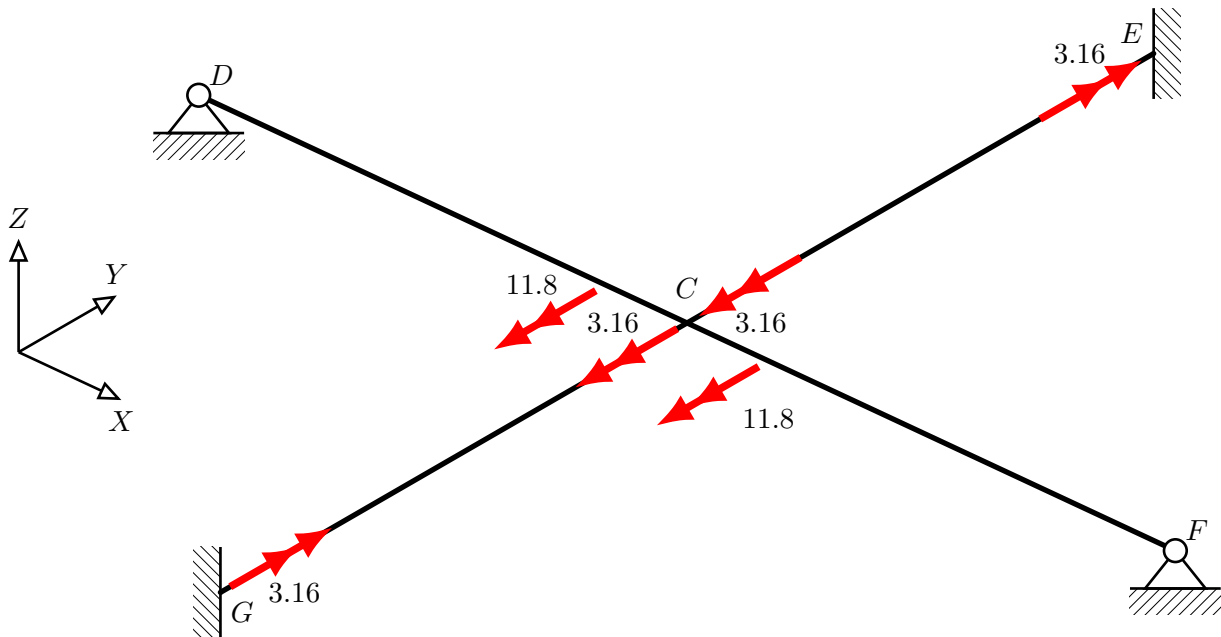
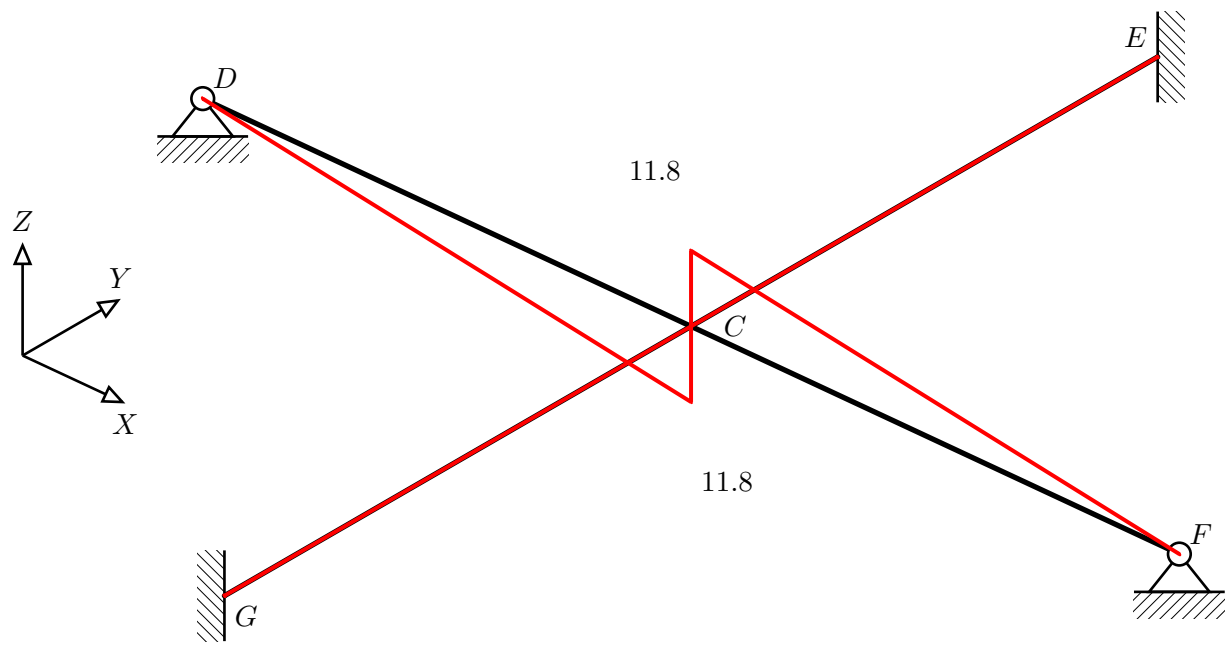

Figure 1: Free body diagram.
Figure 2: Bending Moment Diagram.
**Step 10** is to draw the internal actions diagrams. To do this, the results of the member actions which were derived in the local member coordinate system must now be considered now in the global coordinate system. The easiest way to do this is to draw the directions by carefully interpreting the member force signs against the global axis system. The resulting FBD is shown in Figure 1.
Considering the BMD, for each member, to identify the side in tension it can help to visualise the deformation resulting from the forces acting on it indicated in the free body diagram, Figure 1. Since there are no loads acting between the nodes, the BMD is comprised of straight lines between the values at each node. The BMD is shown in Figure 2.
For the TMD, it is not necessary to adopt a strict drawing convention once the relative actions are indicated. For example, the double-headed arrow in Figure 1 indicating the torsion of member  $CE$  could be thought of as an analogous “tension” which we may consider as positive, and so we draw the TMD above the line.